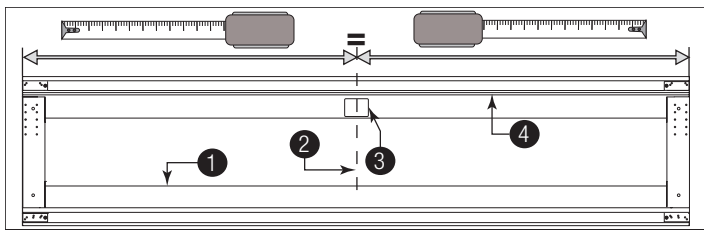
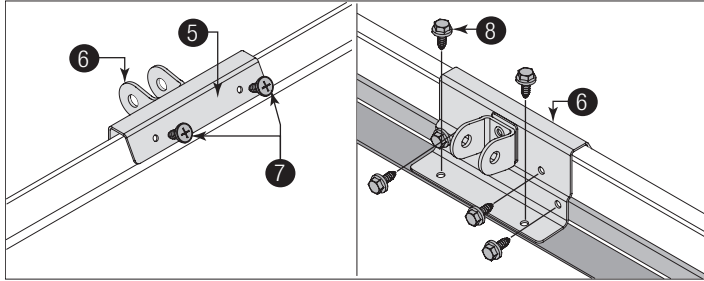

Figure 18
Figure 19, Top Section and Drawbar Operator Bracket
**IMPORTANT:** When securing the asymmetrical strut to the top section, it is recommended not to install any fasteners into the short leg of the asymmetrical strut. See Figure 19 for correct orientation.
**IMPORTANT:** When attaching drawbar operator bracket to top section with strut (4), apply additional pressure to thread into the strut.
**See Figure 18 and Figure 19 for the following steps.**